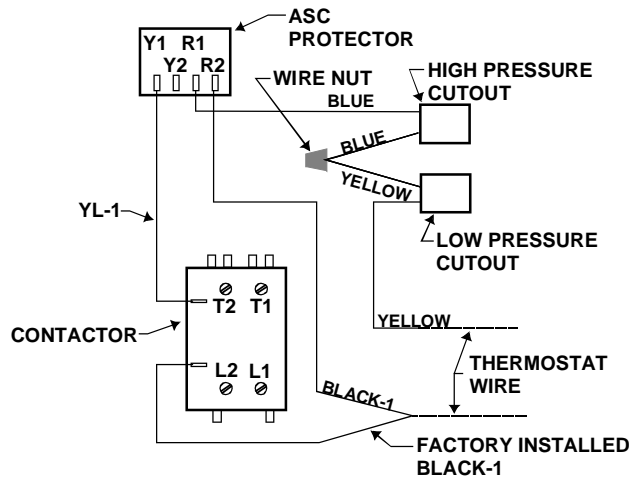

Figure 4
2. Connect the yellow low pressure cutout wire with the flag terminal to the field-supplied thermostat wire coming from "Y" indoors. Cut and strip if necessary. Connect the other yellow low pressure cutout wire to the stripped end of the blue high pressure cutout wire. Wire nut the ends and crimp (see Figure 4).